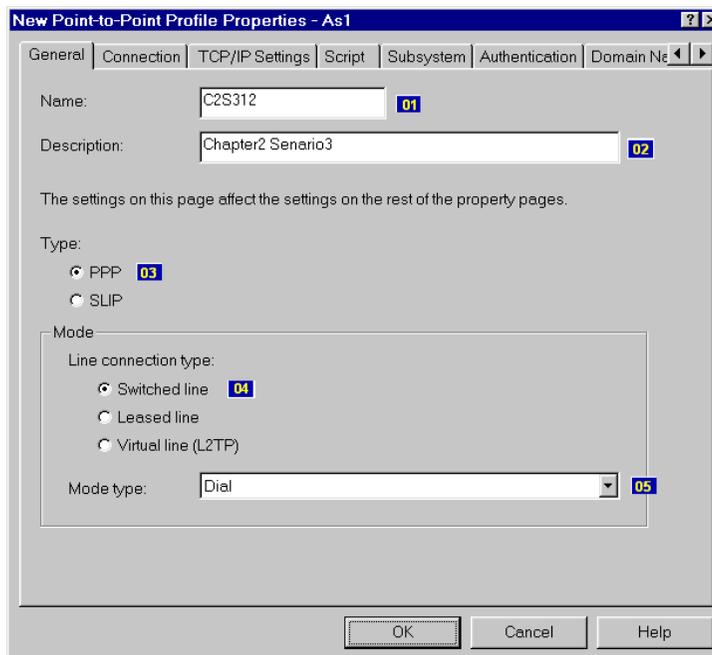
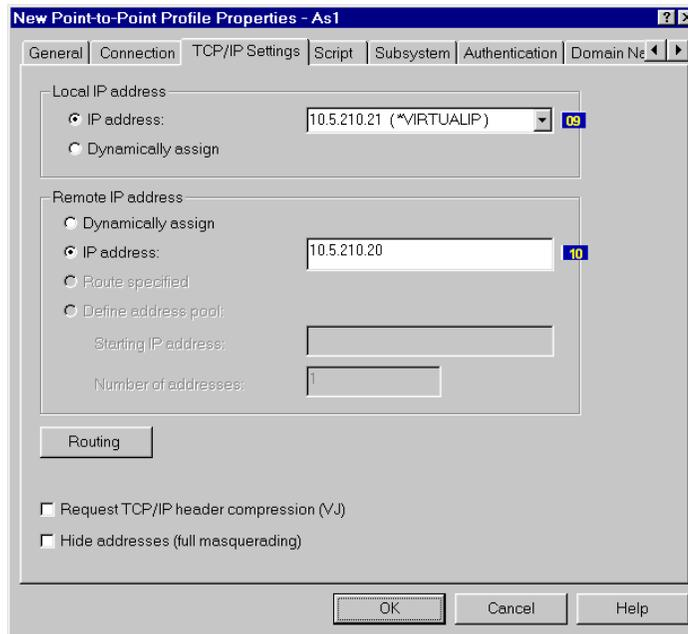

Figure 23. New Point-to-Point Profiles Properties General page
Figure 30. New Point-to-Point Properties TCP/IP Settings display
Enter a name and description (Figure 23). Select **Switched line** for Line connection type and **Dial** for Mode type.
10. Click the **TCP/IP Settings** tab (Figure 30).
The numbers in the following tables correspond to the reverse-type numbers shown in Figure 23 on page 36 through Figure 30 on page 41.